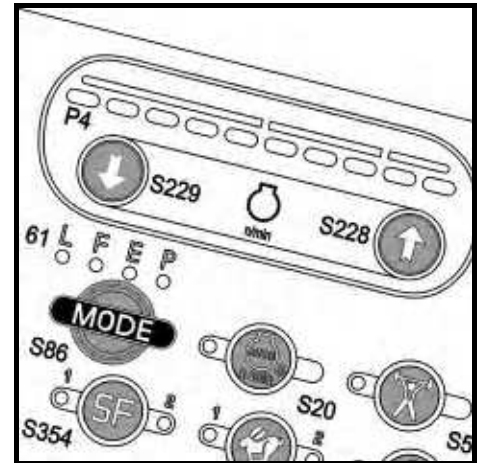

Fig. 11
The LED indicator P4 (Fig. 11) displays the engine RPM. It divides the complete RPM range into 10 Stages.
The engine RPM can be set either using the arrow keys S228 and S229, or using the MODE key S86 (Fig. 11).
Immediately after starting, the engine will run on RPM stage 1 (low idle). One of the four light emitting diodes (Fig. 11, pos. 61) blinks to show which mode L, E or P is pre-selected (the pre-selected mode, which was in use before the machine was turned off remains stored).